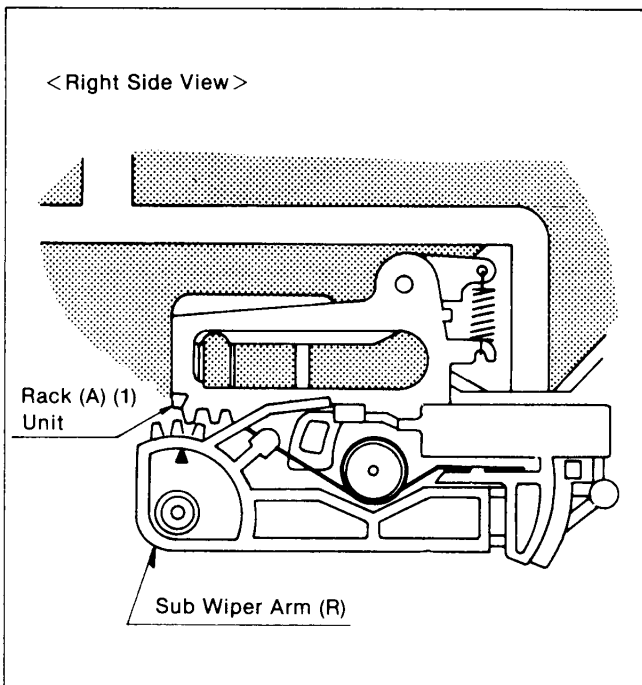

Figure M63
In this position, the arrow on the Sub Wiper Arm (R) should align with the arrow on the Rack (A)(1) Unit as shown in Figure M63.